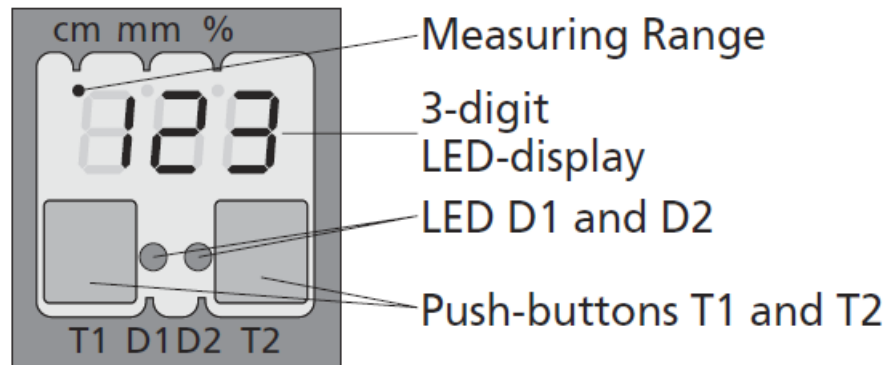

Fig. 3: TouchControl/LED display
- Set the parameters of the sensor manually via TouchControl (see Fig. 3 and Diagram 1)